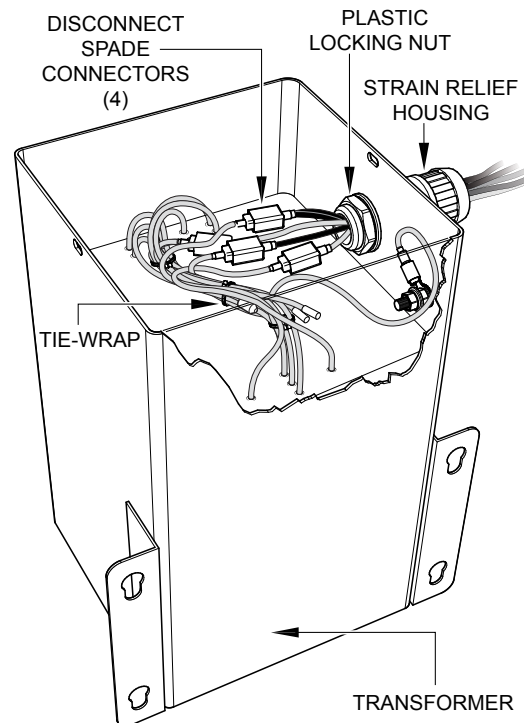

Figure 9. Spade Connectors (Disconnection)
1. Disconnect the 4 male and female spade connectors inside the transformer as shown in Figure 9. Be sure that each wire has a marking label. This will help when installing the new transformer.